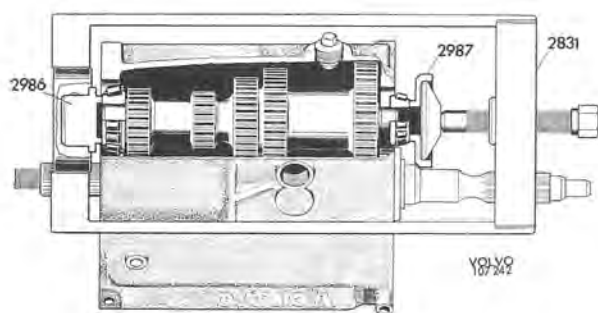

Fig. 4-32. Installing front inner ring
6. Turn the gearbox upside down. Press the front bearing inner ring onto the intermediate shaft with 2831, 2986 and 2987, see Fig. 4-32. Drive in the outer rings until they are about 3 mm (0.12") above the face.